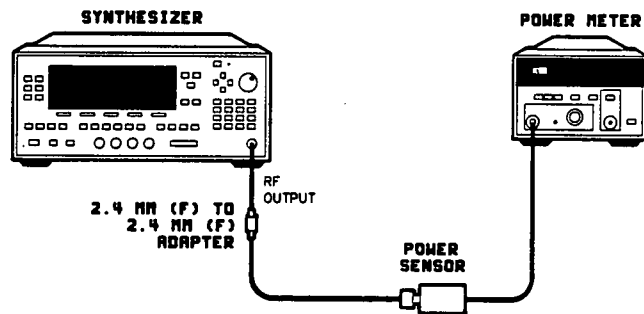

Figure 2-5. Power Accuracy Test Setup
1. Turn on the equipment shown in figure 2-5 and let them warm up for at least one hour.
3. Connect the equipment as shown in figure 2-5 and press **PRESET**.